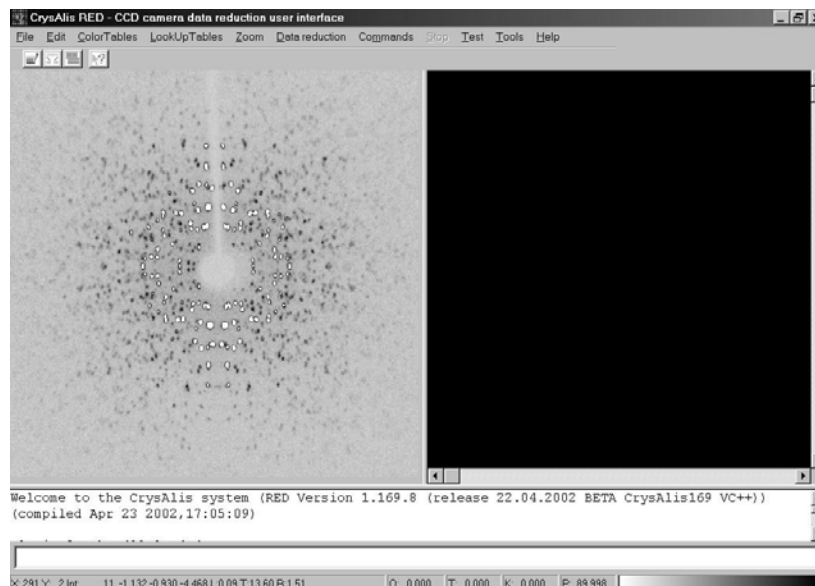

Figure 6.5.9 Rotation photograph
2. When a window such a figure 6.5.9 is displayed click on **Import run list** and select the pre-defined run list **unit_cell_in_5_min.run**. If required adjust the exposure time or frame width using the relevant buttons.